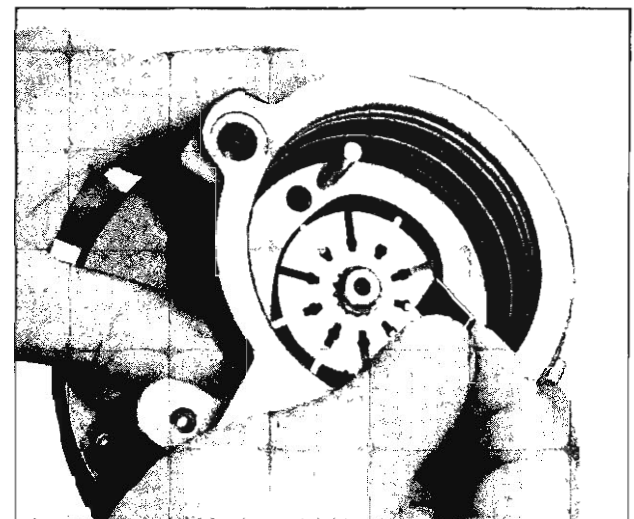

Fig. 72—Installing Vanes
6. Install vanes in rotor slots with radius edge towards outside as shown in Figures 72 and 73.